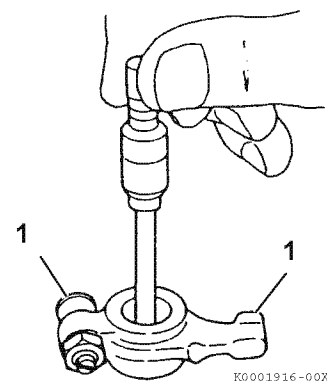

Figure 6-12
Use a telescoping gauge and micrometer to measure the inside diameter of all the rocker arm support brackets and the rocker arms (Figure 6-12). Record the measurements. See *Rocker Arm and Shaft* on page 6-5 for the service limit.
Inspect contact areas (Figure 6-12, (1)) for excessive wear or damage.